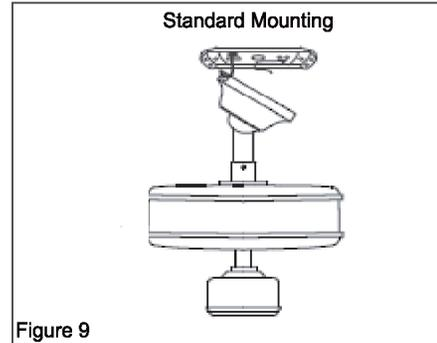

Figure 9
4. Carefully lift the fan assembly up to the ceiling mounting plate and hang the fan on the hook provided by utilizing one of the holes at the outer rim of the ceiling canopy (Fig. 9).
**WARNING:** THE HOOK AS SHOWN IN FIG. 9 IS ONLY TO BALANCE FAN WHILE ATTACHING WIRING. FAILURE TO HANG AS SHOWN IN FIG. 9 MAY RESULT IN HOOK BREAKING CAUSING THE FAN TO FALL. HOOK MUST PASS FROM INSIDE TO OUTSIDE OF CANOPY.